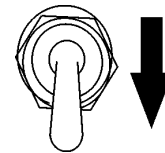

Figure 25. Generator On/Off Switch (Off)
- To shut-down the engine, place the generator's **operation switch** (Figure 25) in the **OFF** position.